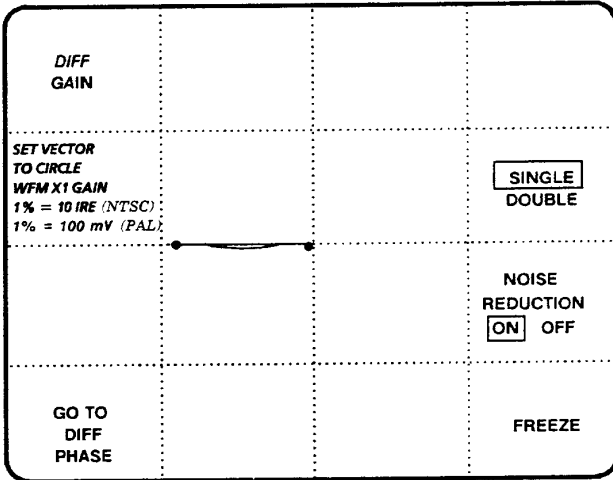

Figure 4-3: Differential Gain Measurement
The DIFF GAIN menu is displayed on the left CRT, and the demodulator sweep is displayed on the right CRT, as shown in Figure 4-3. The instrument is now configured as specified in Table 4-2.
4. Use the large knob to set the phase of the chroma to be measured to the nine o'clock position. See Figure 4-3.